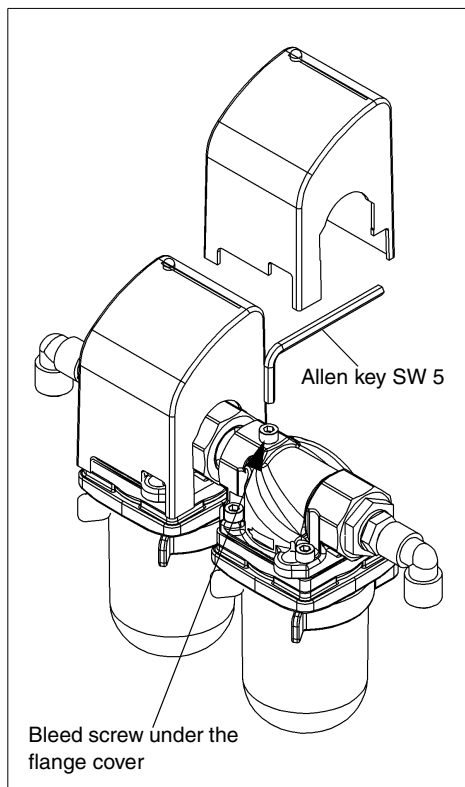

Fig. 7: Bleed screw
- 6 Re-tighten the bleed screw once all the air has been vented (see fig. 7).
- 3 Re-tighten the bleed screw once all the air has been vented (see fig. 7).